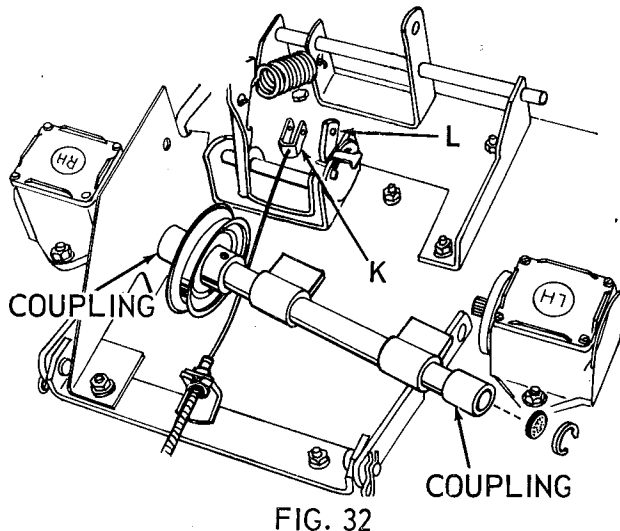

FIG. 32
3. Remove cable clevis (K) from idler bracket (L) if mower is so equipped.
4. Slide couplings toward center of mower. This releases shaft and pulley assembly from gear boxes. See Figure 32.